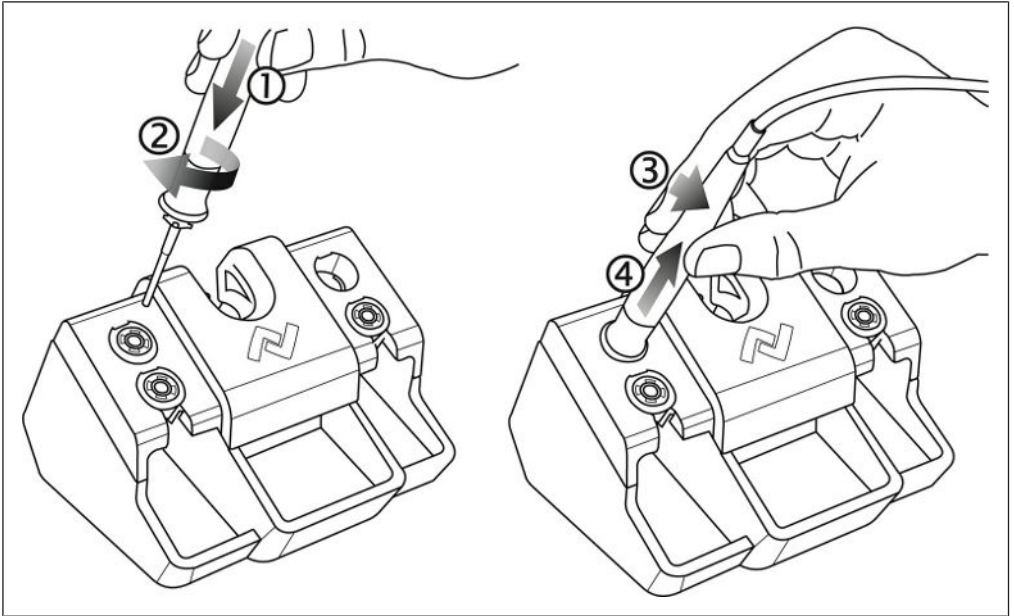

Fig. 16: A soldering tip can be picked up in four steps
- a) Figure 16 on the left: Insert the heating element all the way into the soldering tip [1], then turn the soldering iron clockwise as far as it will go [2].
- b) Figure 16 on the right: Turn the soldering iron slightly towards you [3] and pull it out [4].